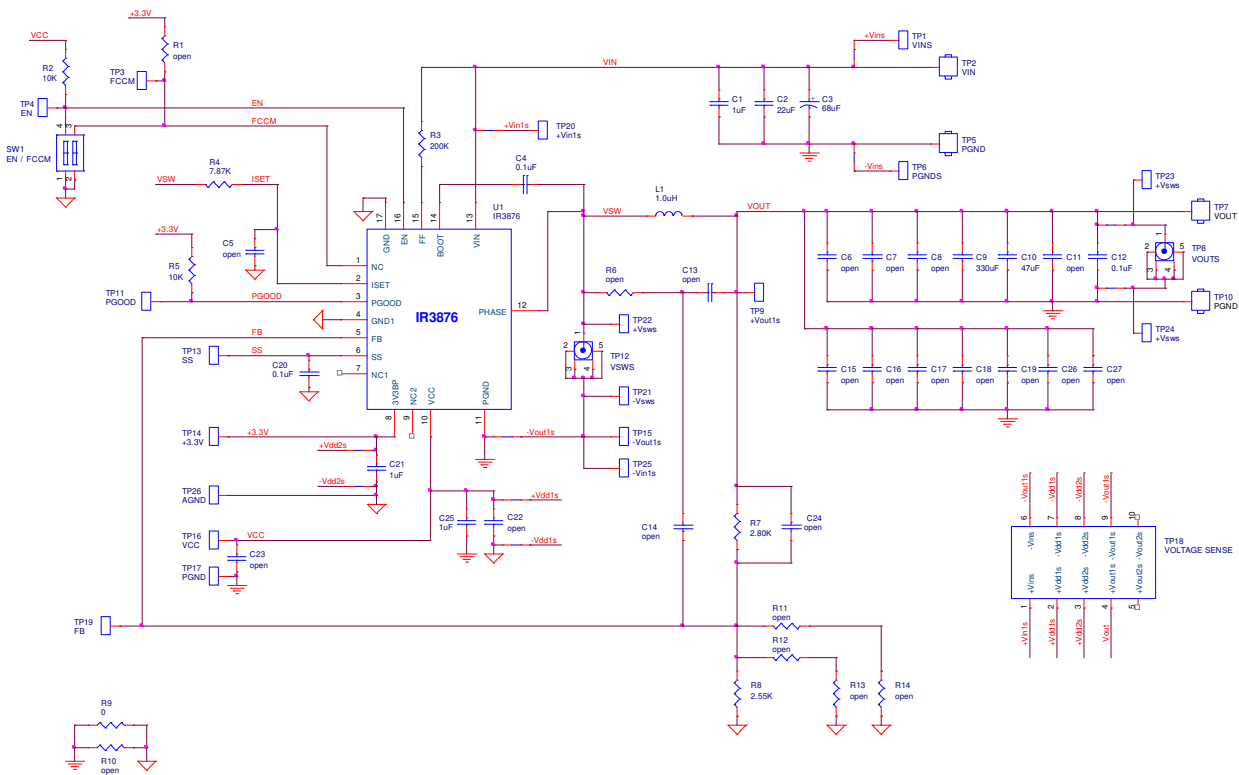

Figure 7. Typical Application Circuit for VOUT = 1.05V, Fs = 300kHz
Tested with demoboard shown in Figure 7, $V_{IN} = 12.6V$, $V_{CC} = 5V$, $V_{out} = 1.05V$, $F_s = 300kHz$, $T_A = 25^\circ C$, no airflow, unless otherwise specified
Tested with demoboard shown in Figure 7, VIN = 12.6V, VCC = 5V, Vout = 1.05V, Fs = 300kHz, TA = 25°C, no airflow, unless otherwise specified
- For applications with all ceramic output capacitors, the ESR is usually too small to meet the stability criteria. In these applications, external slope compensation is necessary to make the loop stable. The ramp injection circuit, composed of R6, C13, and C14, shown in Figure 7 is required. The inductor current ripple sensed by R6 and C13 is AC coupled to the FB pin through C14. C14 is usually chosen between 1 to 10nF, and C13 between 10 to 100nF. R6 should then be chosen such that $L/DCR = C13 \cdot R6$.